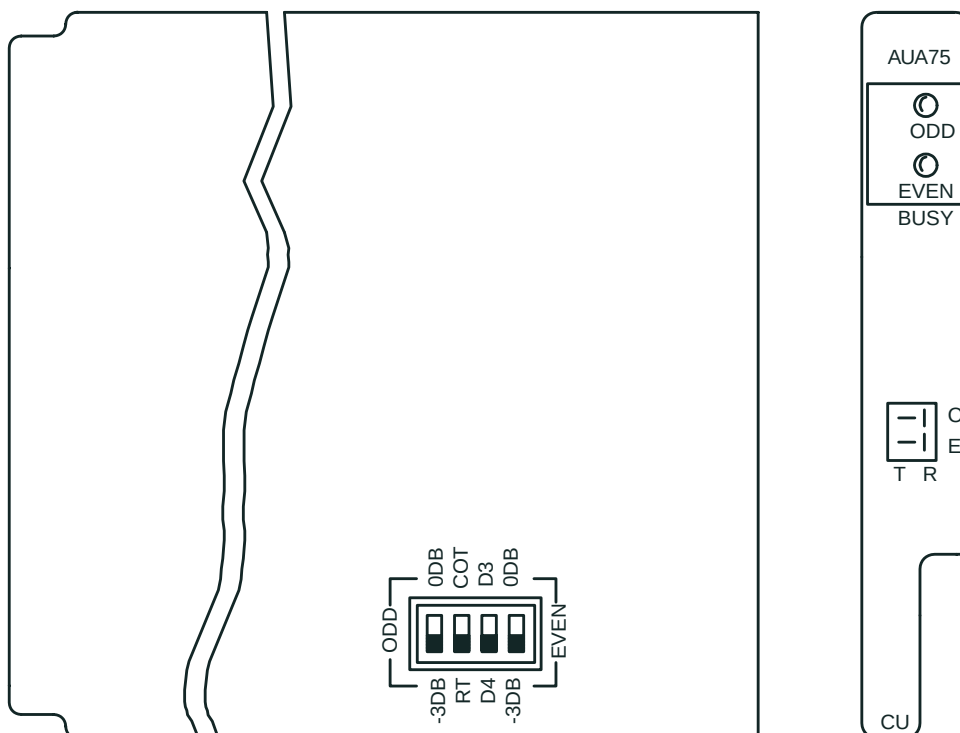

Figure 3 – AUA75 2W PLAR Channel Unit Faceplate and Option Switches
8. From records on the work order, set the dual **AUA75** channel unit option switch **COT/RT** (Figure 3) to the **RT** position.
9. From records on the work order, set the dual **AUA75** channel unit option switch **D3/D4** (Figure 3) to the **D4** position unless the channel unit will be terminated on a D3 PLAR CU in a D3-type bank at the far end. Then set option switch **D3/D4** to **D3**.
10. From records on the work order, set the dual **AUA75** channel unit option switch **ODD** (Figure 3) to **0DB** or **-3DB** to agree with the work order record detail (WORD) document or the facility record for the odd channel. Set option switch **EVEN** (Figure 3) to **0DB** or **-3DB** to agree with the WORD document or the facility record for the even channel.